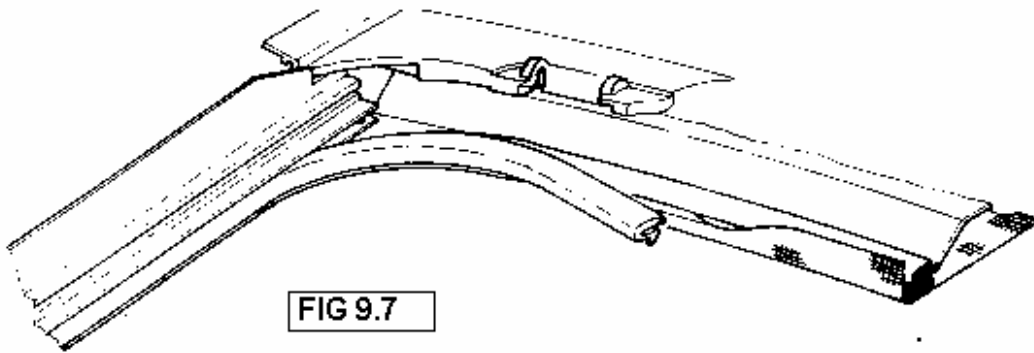

FIG 9.7
- D. Glue the material around the opening to the side of the interior ring. Cut the material just above the interior ring. Push the excess cloth into the interior ring. Position the edge trim in and over the interior ring see **figure 9.7**.